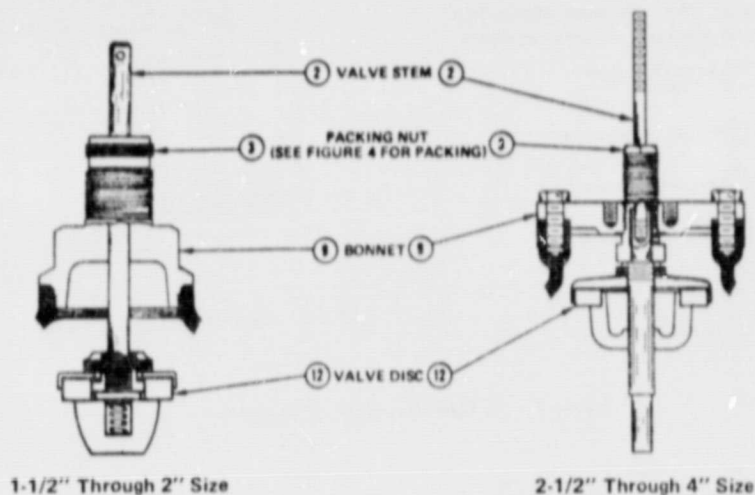

Figure 5 - VALVE DISC REPLACEMENT, VP2510 VALVES
A. VP2510 Valves (See Fig. 5):
1. Remove Actuator as outlined under Actuator Removal and remove Bonnet (9) with Valve Plug Assembly.
2. Loosen Packing Nut (3) to free Packing on Valve Stem (2).
3. Disengage Valve Plug Assembly from Bonnet (9).
4. Disassemble Valve Plug Assembly* and replace Valve Disc (12).
6. Tighten Packing Nut (3).